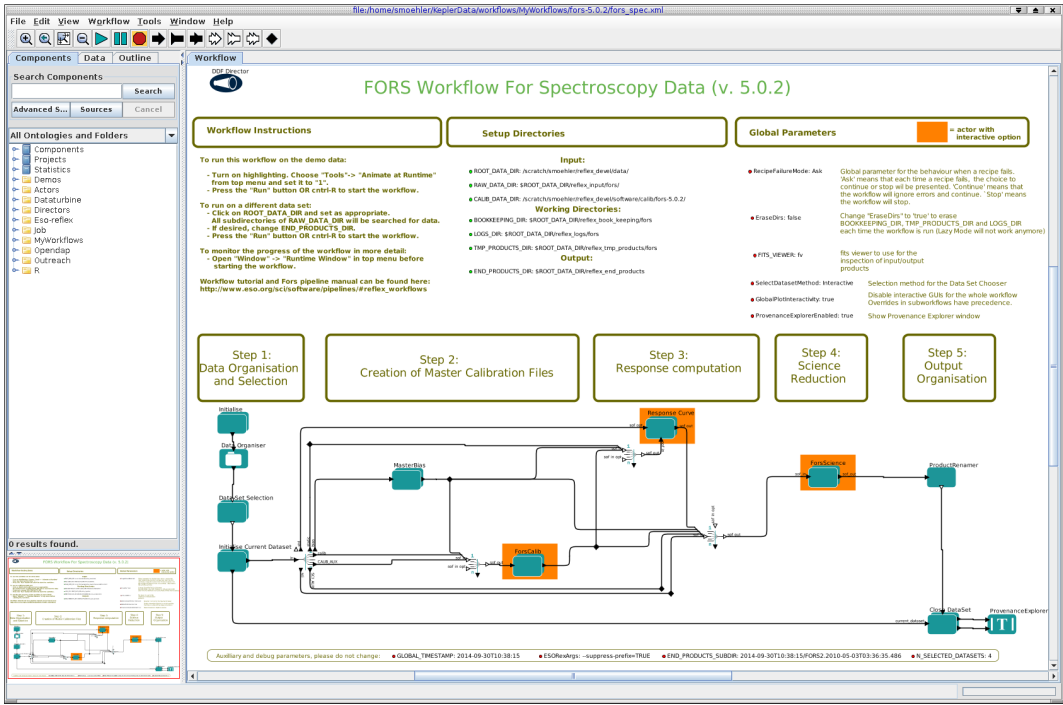

Figure 4.2: *FORS2 workflow general layout.*
2. Now open the FORS2 workflow by clicking on File -> Open File, selecting first fors-5.0.11 and then the file ForsSpec.xml in the file browser. You will be presented with the workflow canvas shown in Figure 4.2. Note that the workflow will appear as a canvas in a new window.